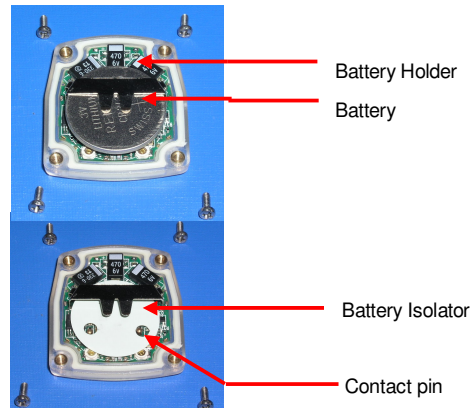

Figure 3: View of Battery Removed
4. Carefully slide the battery out from under the battery holder to reveal the battery isolator (Figure 3).
5. Before inserting a new battery into place, position the battery Isolator such that the holes are aligned with the contact pins (Figure 3).